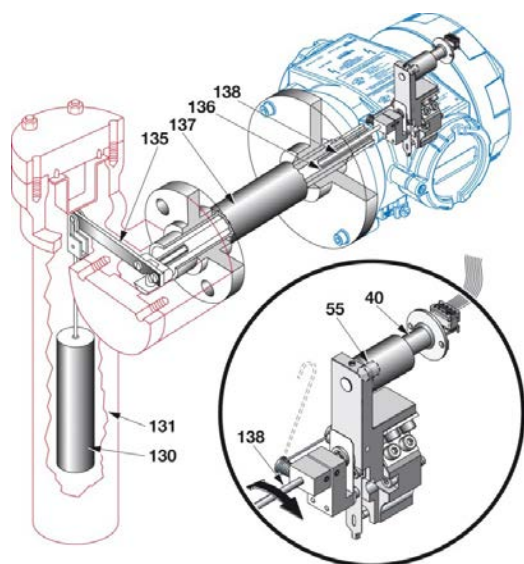

Figure 1 – Diagram of principle
A change in liquid level varies the apparent weight of the displacer (130), which increases or decreases load on the torque tube (136) by an amount directly proportional to the change in liquid level. The resulting rotation of the torque rod (138), seen in Figure 1, modifies the magnetic field of a frictionless, non-contacting sensor (40). The signal generated by the sensor varies current in the loop in proportion to the level in the vessel.